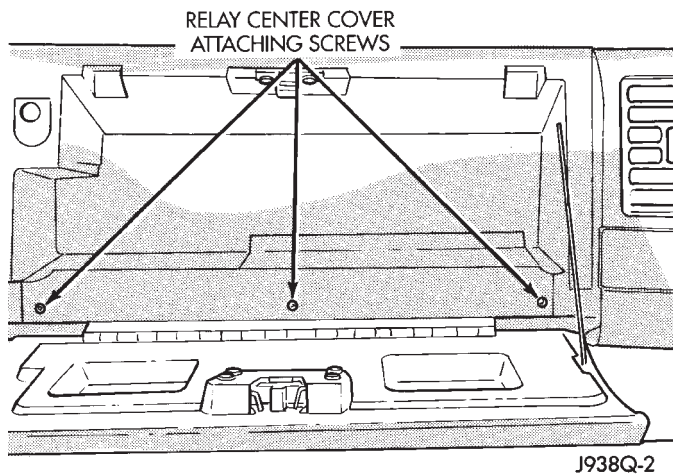

Fig. 4 Relay Center Cover
- (1) Open glove box and remove 3 screws holding relay center cover (Fig. 4).